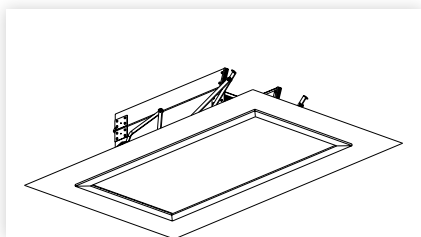

figure 12
1. Fix a suitable architrave around the lid (figure 12).